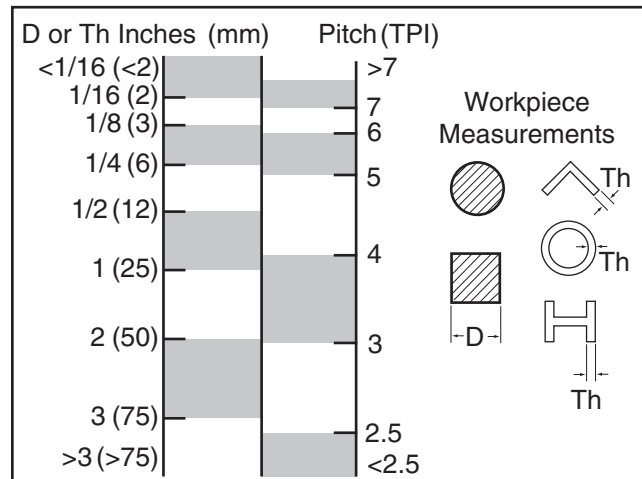

Figure 39. Blade selection chart.
—For solid workpieces, this measurement is the length of cut taken from where the tooth enters the workpiece, sweeps through, and exits the workpiece. See (D) on the chart in **Figure 39**.
2. Refer to the "D or Th" column of the blade selection chart in **Figure 39**, and read down to find the workpiece thickness you need to cut. Read across to find the appropriate Pitch (TPI) for the cut. For blade alternatives, see **Accessories on Page 29**.